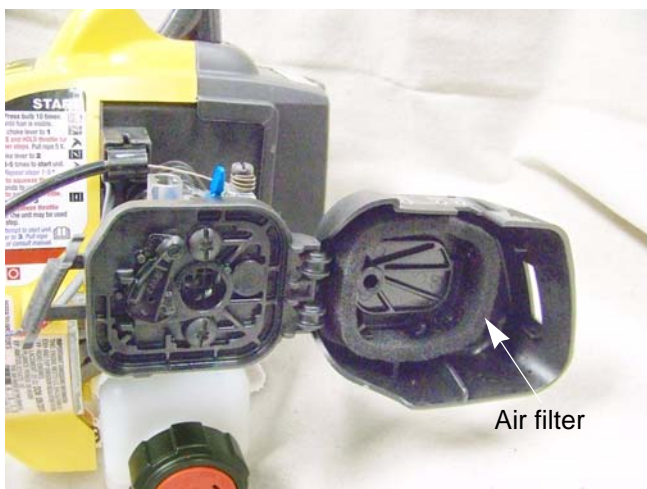

Figure 2.2
2. Pull the filter out. See Figure 2.2.